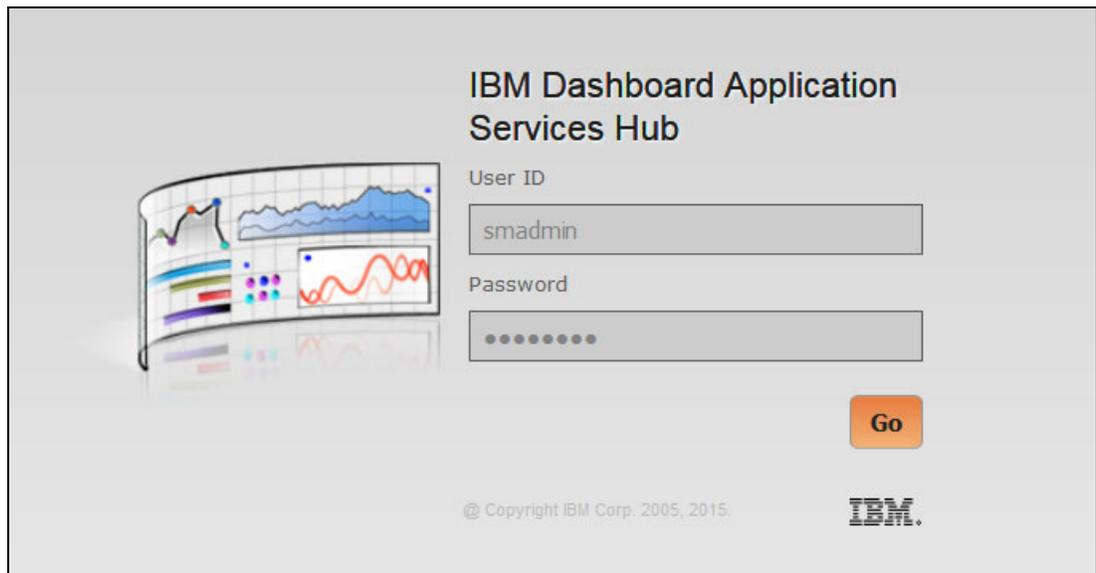

Figure 8-1 IBM Dashboard Application Services Hub
1. He logs in to the Integrated Portal console by using the following link, as shown in Figure 8-1: